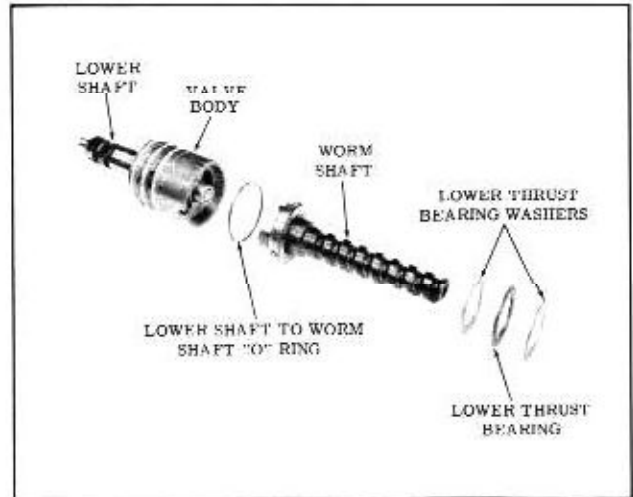

Fig. 4-95 Worm and Valve Body Assembly
1. Lubricate the worm, lower thrust bearing and the two thrust washers with Hydra-Matic oil, then install one thrust washer, the bearing, and the other thrust washer over the end of the worm. (Fig. 4-95)